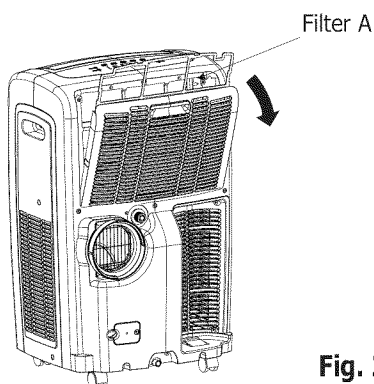

Fig. 25
- This unit has three filters, they are filter A, B and C. Grasp the upper panel tab and take off the filter A which behind the grill of the back panel (Fig.25). Remove the lower filter B and C by loosening the screws. Take down the air inlet grille, then remove the air filter as shown in Fig.26 & 27.